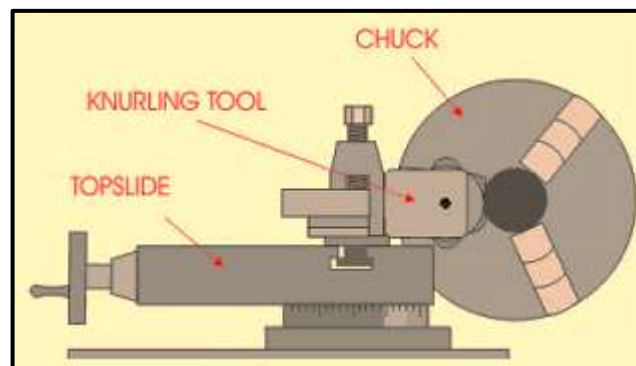

Figure 7-72: The knurling tool.
**Knurling Tools:** The knurling tool can be designed differently, but all accomplish the same operation. Two common types of knurling tools are the knuckle joint and revolving head type of knurling tools. The knuckle joint type is equipped with a single pair of rollers that revolve with the work as it is being knurled. (Figure 7-72).